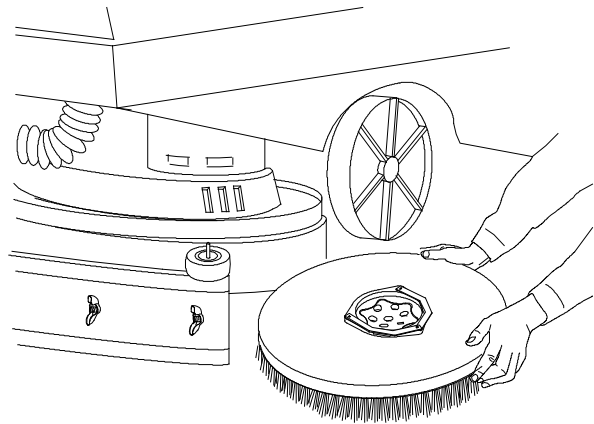

FIG. 1.
2. Slide the brush or pad driver under the scrubber head. Holding the brush or pad driver with both hands, lift it up to the drive hub and snap into position (Figure 1).